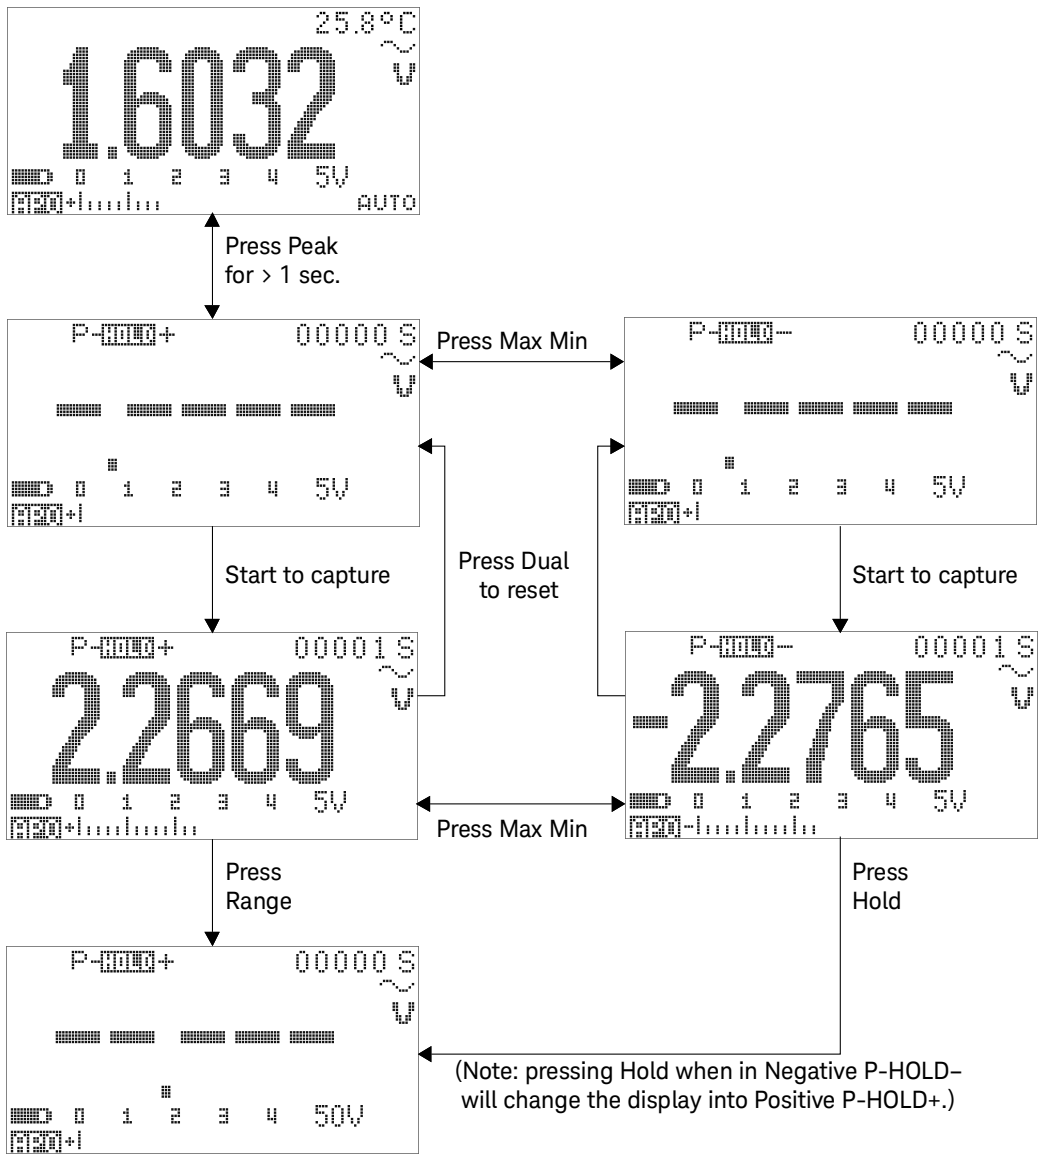

Figure 3-7 1 ms peak hold mode operation
- 4 In the measurement example shown in Figure 3-7 on page 96, the crest factor will be $2.2669/1.6032 = 1.414$.